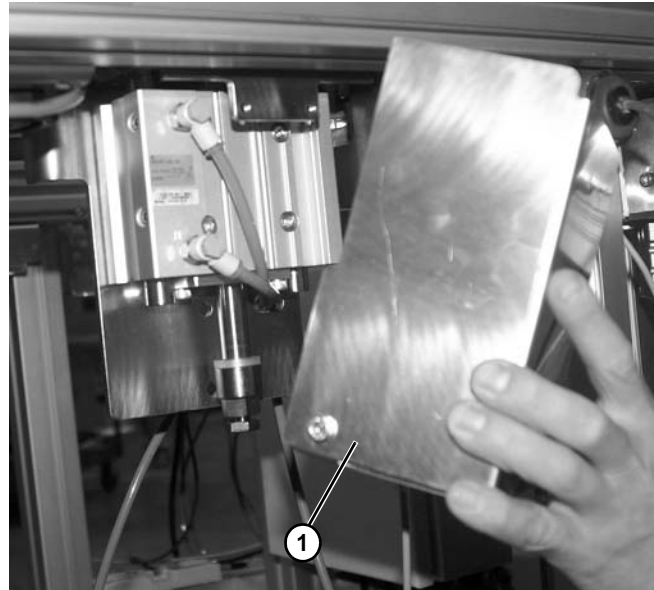

Figure 95
2. Lower cylinder guard (**Figure 95, item 1**) from around cylinder assembly.